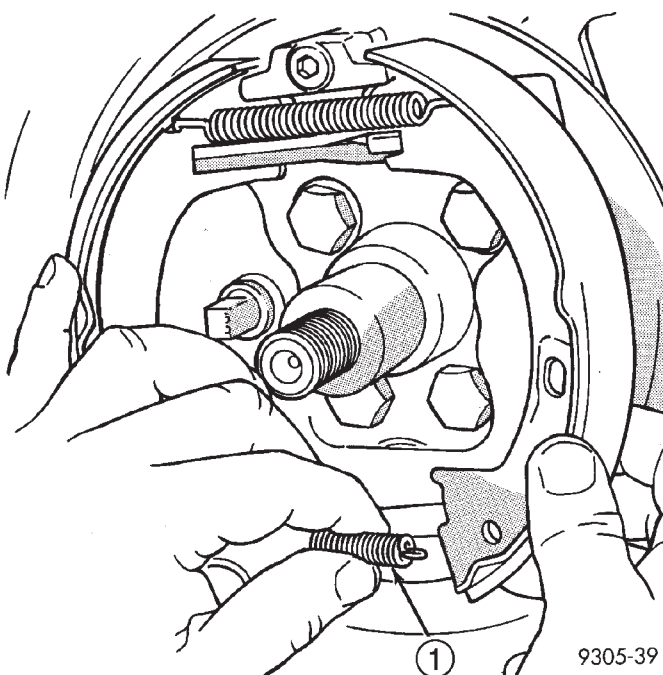
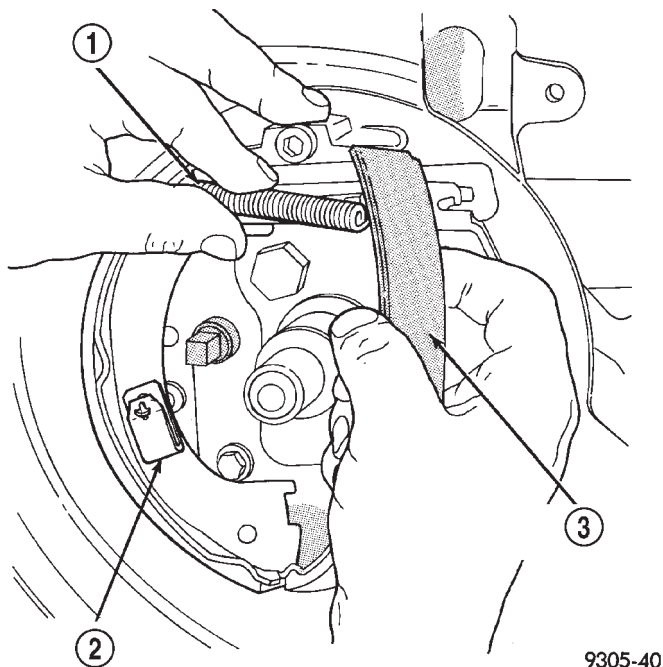

Fig. 152 Brake Shoe Lower Return Spring
Fig. 153 Brake Shoe and Upper Spring
(9) Remove the lower return spring (Fig. 152) between the park brake shoes.
(10) Pull the rear park brake shoe away from the caliper adapter (Fig. 153). Remove the upper return spring (Fig. 153) from between the park brake shoes.
- (2) Install the rear park brake shoe and the park brake shoe upper return spring (Fig. 153).
- (3) Pull rear brake shoe over anchor block until properly located on adapter.
- (4) Install the park brake lower return spring (Fig. 152).